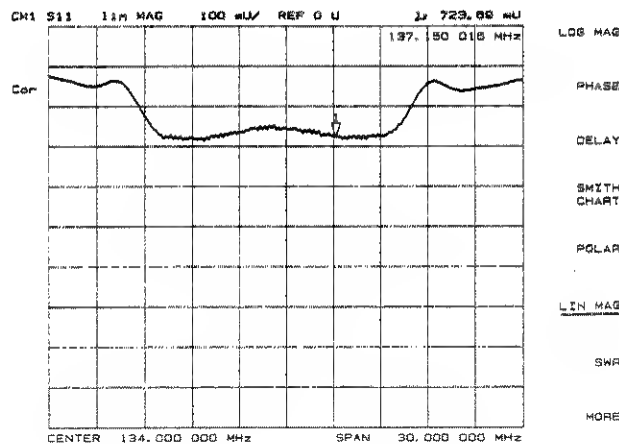

Figure 4-15. Linear Magnitude Format
**[LIN MAG]** (LINM) displays the linear magnitude format (Figure 4-15). This is a Cartesian format used for unitless measurements such as reflection coefficient magnitude  $\rho$  or transmission coefficient magnitude  $\tau$ , and for linear measurement units. It is used for display of conversion parameters and time domain transform data.